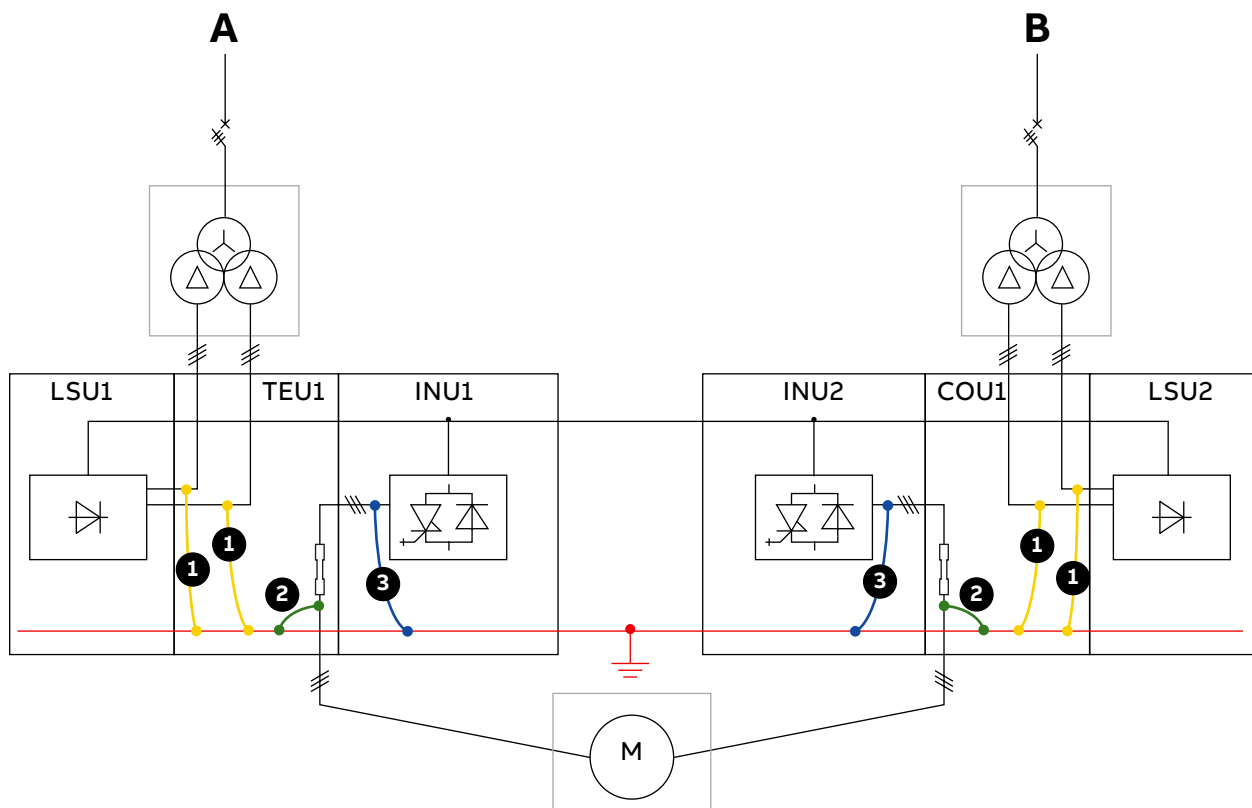

Figure 10–19 Overview of grounding the drive - INU1 is shut down (A) and INU2 is shut down (B). Numbers indicate the connection sequence.
- Busbars for the motor cables (2 in Fig. 10–20)
- Busbars in the INU (3 in Fig. 10–20)